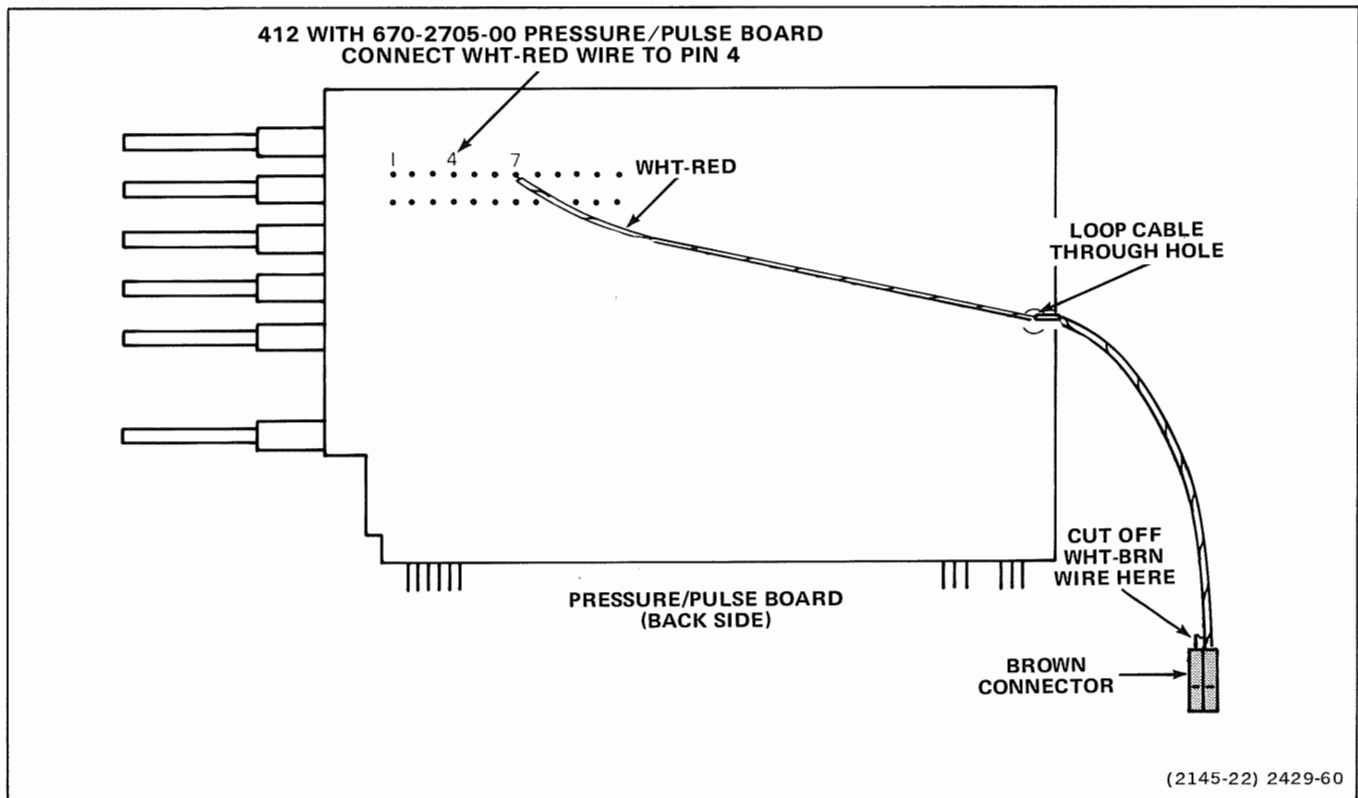

Figure 1-16. Installing 2-wire cable to 412 Pressure/Pulse Board.
2. Install 2-wire cable (with brown connector) on Pressure/Pulse Board as shown in Figure 1-16.